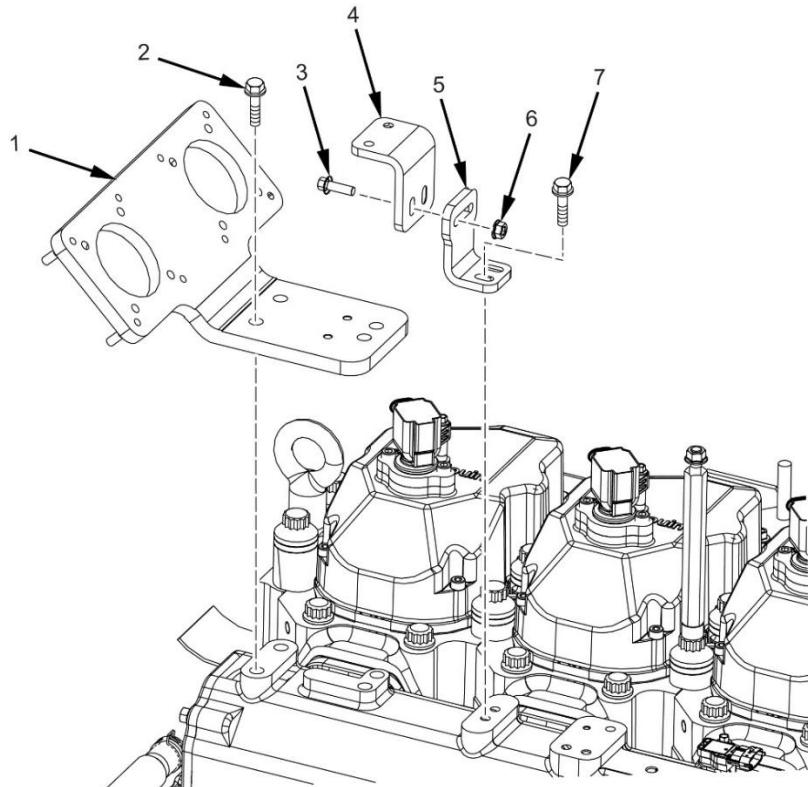
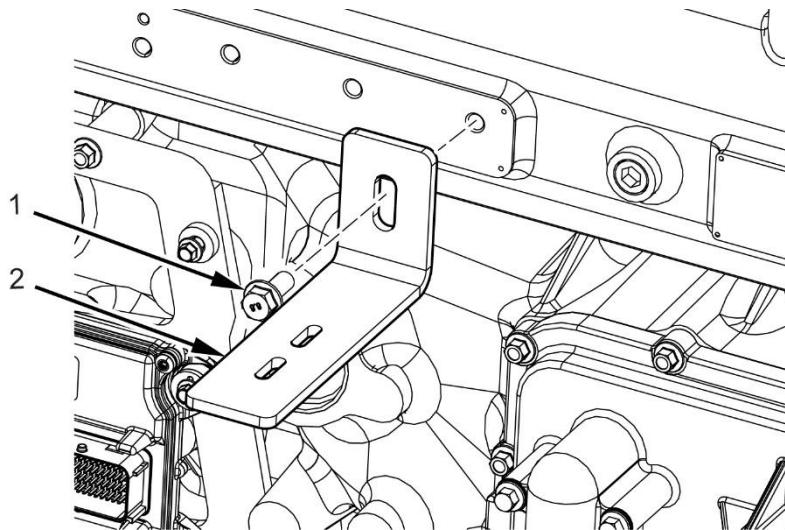

Figure 32. DEPR Bracket Assembly
Figure 33. Lock Off Valve Bracket Assembly
3. Remove the four bolts (Figure 32, Item 2) from the dual fuel mixer bracket (Figure 32, Item 1) and remove the dual fuel mixer bracket.
4. Remove the two bolts (Figure 32, Item 3) and nuts (Figure 32, Item 6) from the upper dual DEPR bracket (Figure 32, Item 4) and lower dual DEPR bracket (Figure 32, Item 5).
5. Remove the two bolts (Figure 32, Item 7) from the lower dual DEPR bracket (Figure 32, Item 5) and remove bracket.
6. Remove bolt (Figure 33, Item 1) and bracket (Figure 33, Item 2) from intake manifold.
2. Install bracket (Figure 33, Item 2) to intake manifold with two bolts (Figure 33, Item 1).
3. Install the lower duel DEPR bracket (Figure 32, Item 5) two bolts (Figure 32, Item 7).
4. Install two bolts (Figure 32, Item 3) and nuts (Figure 32, Item 6) to the upper duel DEPR bracket (Figure 32, Item 4) and lower duel DEPR bracket (Figure 32, Item 5).
5. Install the dual fuel mixer bracket (Figure 32, Item 1) with four bolts (Figure 33, Item 2) to the intake manifold.